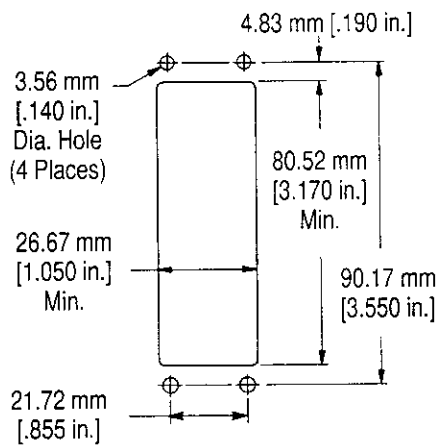

Figure 8
8. PANEL MOUNTING (Figure 8)
Receptacle connectors are designed for mounting to the front of a panel. Refer to the dimensions provided in Figure 8 to make the panel cutout. Then mount the connector with four No. 4 screws, lockwashers, and nuts.
The layout in Figure 8 applies to standard receptacle connectors listed in Figure 1. For other versions, refer to appropriate AMP Customer Drawings or consult your local AMP representative.